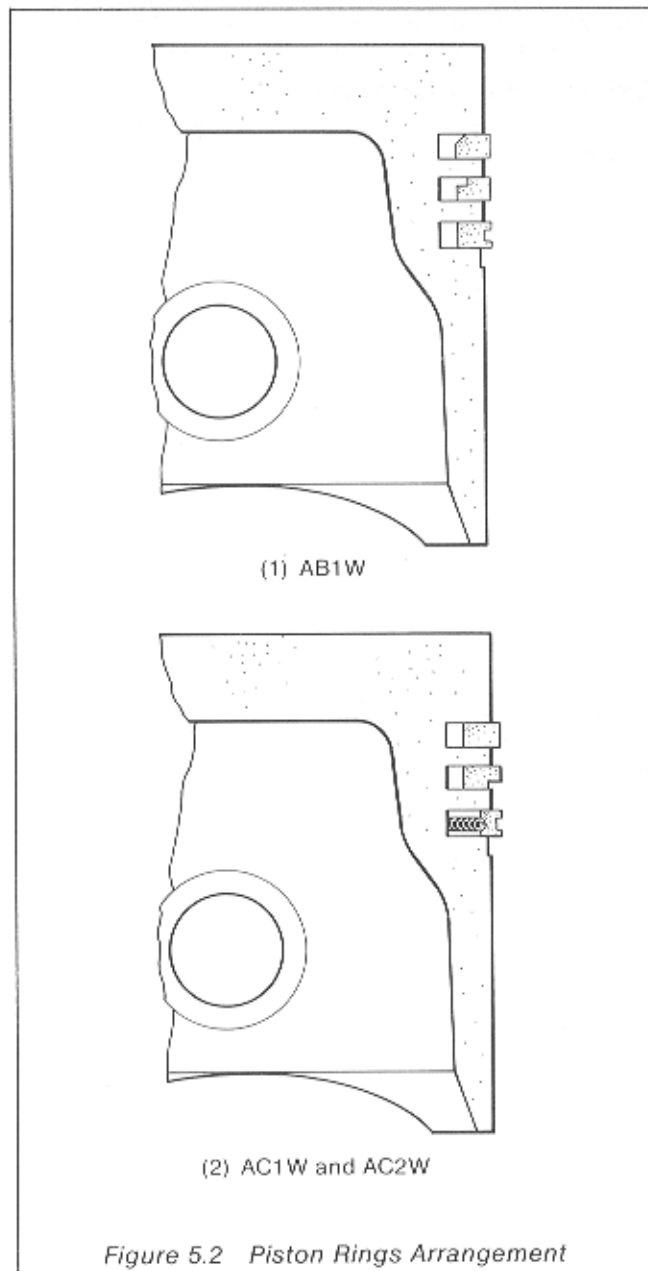

Figure 5.2 Piston Rings Arrangement
- (1) Drain off the cooling system as detailed in Section 4.
- (2) Remove the cooling pipe connections.
- (3) If applicable remove the fuel tank and fuel pipes (Part 1, Section 3).
- (4) Remove the exhaust silencer, air cleaner and manifolds.
- (5) Remove the crankcase to rocker box oil pipe.
- (6) Remove the fuel injector(s) as detailed in Part 1, Section 3.
- (7) Remove the rocker cover(s) and priming plunger(s).
- (8) Gradually slacken the 5/16 in. UNF cylinder head retaining nuts in sequence diagonally as shown in Figure 5.2. Note their positions and remove the nuts and washers.
- (9) Remove the rocker assembly.
- (10) Note the positions of the push rods and remove.
- (3) Insert the piston into the cylinder bore with the crown towards the bottom end of the bore and about 13 mm (0.5 in.) from the bottom edge. Insert the rings one at a time, pushing each ring hard up against the piston crown to ensure that it is level in the cylinder bore. Withdraw the piston sufficiently to allow the gap to be measured with a feeler gauge. The piston ring gap must not exceed 1.14 mm (0.045 in.). If necessary the rings must be renewed. Check the piston ring side clearances are as detailed in the appropriate Engine Technical Data.
- (4) Assemble the rings on the piston in the correct order with the correct face uppermost as shown in Figure 5.2. Rings should not be slack or stuck fast in the groove.
- (5) When the engine has been fully run in, the bore will have a highly polished and very hard surface. If new piston rings are fitted without the cylinder being rebored, the new rings will not bed in satisfactorily. Under these conditions the hard polished bore must be lightly roughened using a medium grade carborundum cloth. The roughening should be carried out radially by hand and should be sufficient only to produce a matt surface on the bore. Alternatively, a suitably sized de-glazing tool of the rotary brush type with silicone-carbide tips may be used provided method used is in accordance with manufacturers instructions. After this treatment the cylinder must be thoroughly washed in kerosene to remove all traces of carborundum.